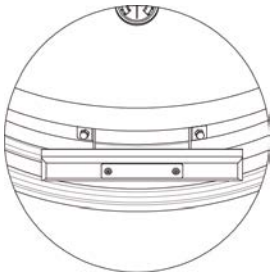

Figure 7
STEP 9A Install Front handle with top grill done in the closed position – be careful not to over tighten the nuts... (See Figure 7)